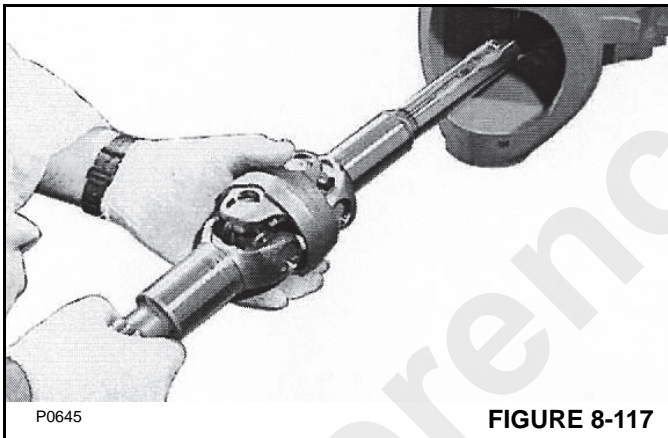

FIGURE 8-117
3. Lubricate the bushing and lips of the ring seal. Install the U-joint inside the axle beam (Figure 8-117).